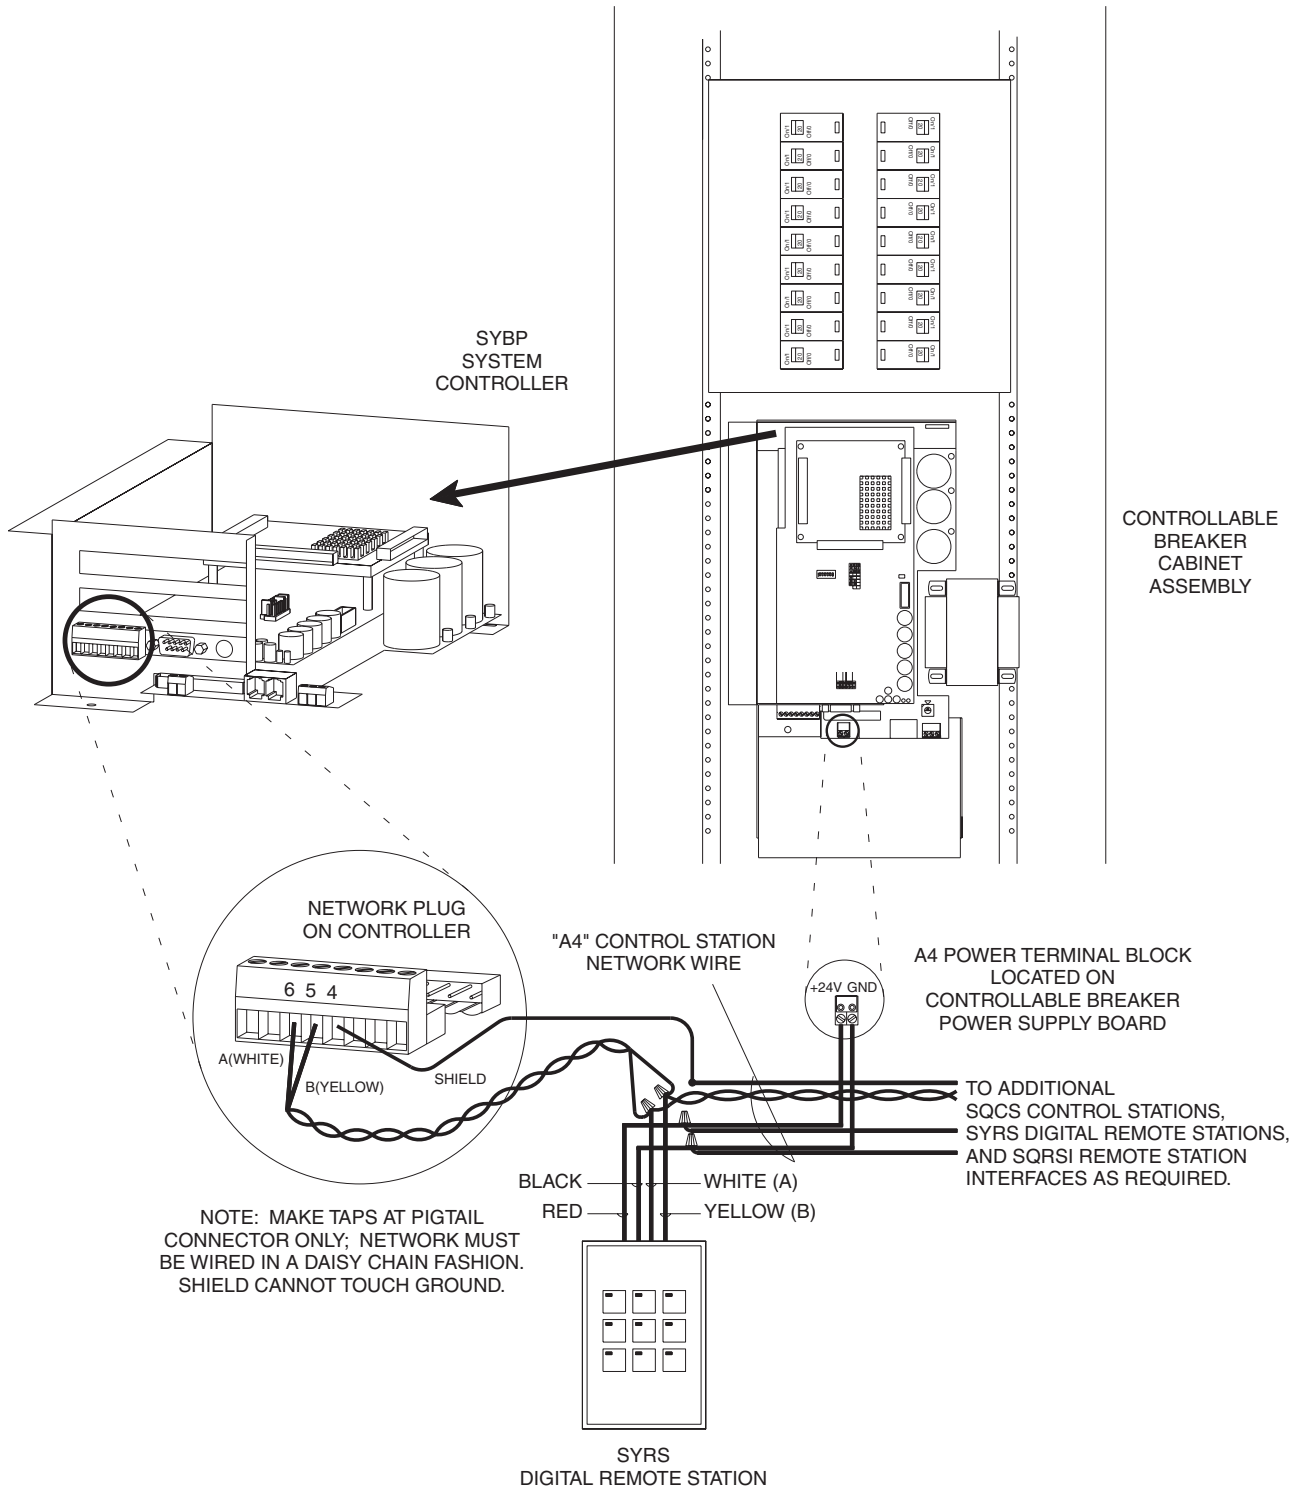

Figure 5 - Digital Station Network Wiring Details
5. Connect any digital stations to the panel. Consult the installation instructions of the device being installed for correct installation procedures. (See Figure 5 for details)